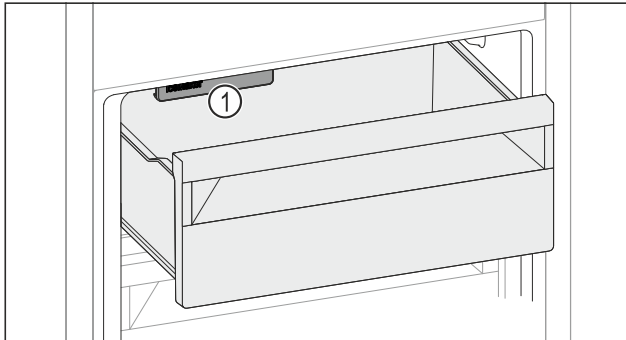

Fig. 224
- Watch out for the IceMaker Fig. 224 (1).